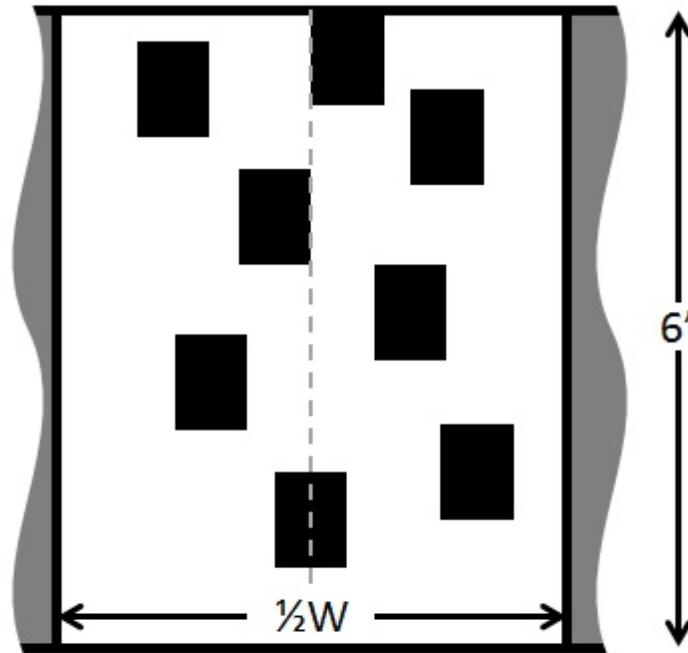

Figure 3: Select appropriately sized sections of sample from random places near the centerline of the roll. *Avoid any damaged areas or areas with defects.*
3.3.7 A sample is randomly selected from the acceptable region. Samples should be distributed across the 6' length by overall 1/2 TIF width to achieve a representative collection of samples (Figure 3).